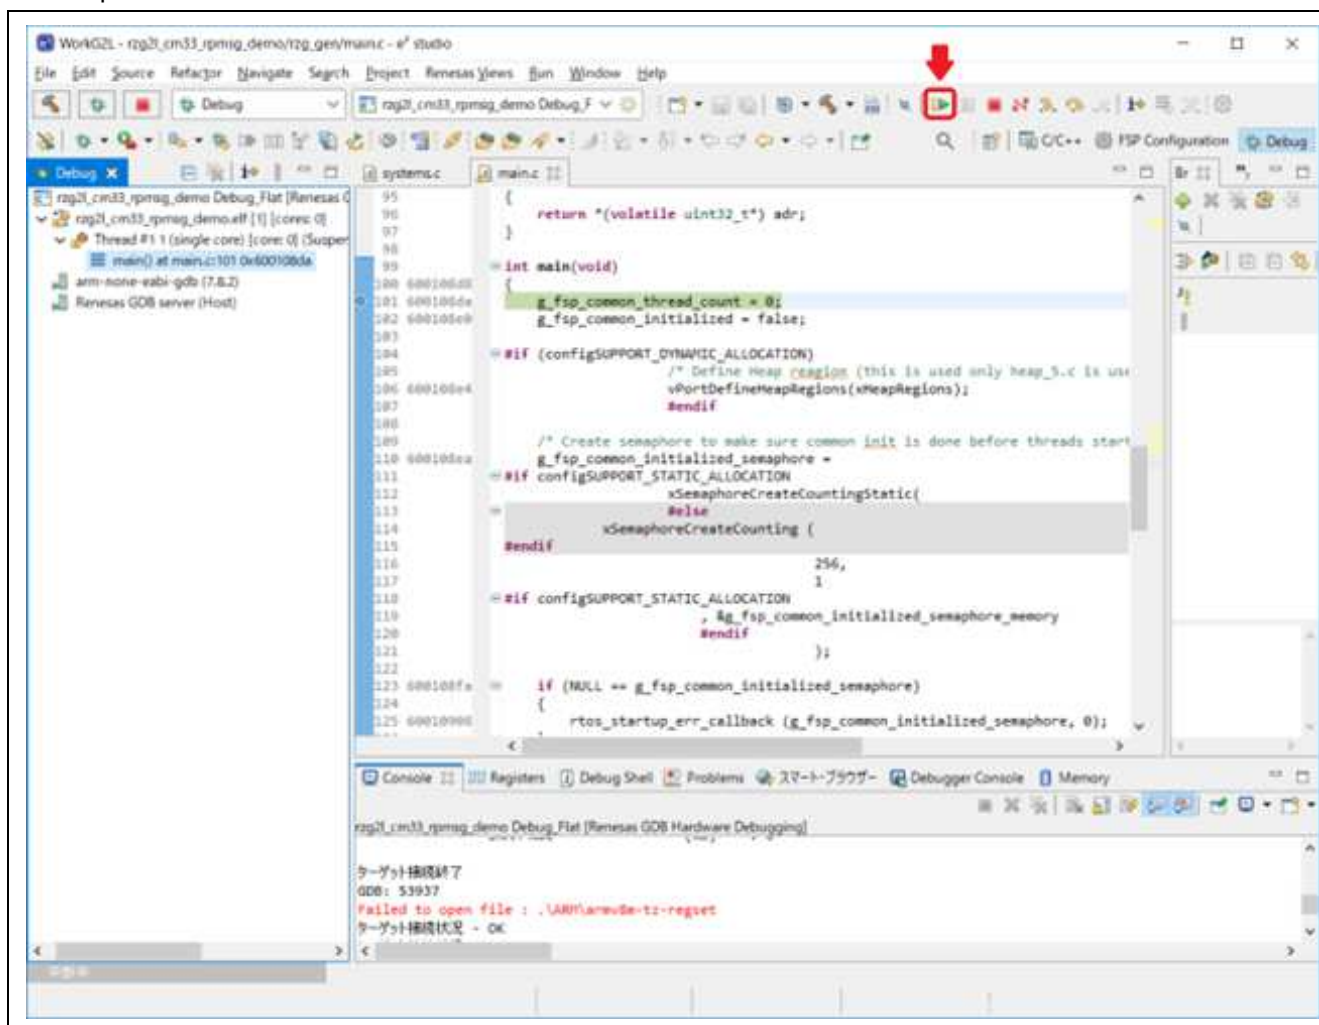

Figure 4-17. Start to debug RPMgs Sample Program (2)
9. When the debug perspective is opened, Program Counter (PC) should be located at the top of Warm\_Reset\_S function. Then, you need to press the button indicated by a red arrow in Figure 4-17: